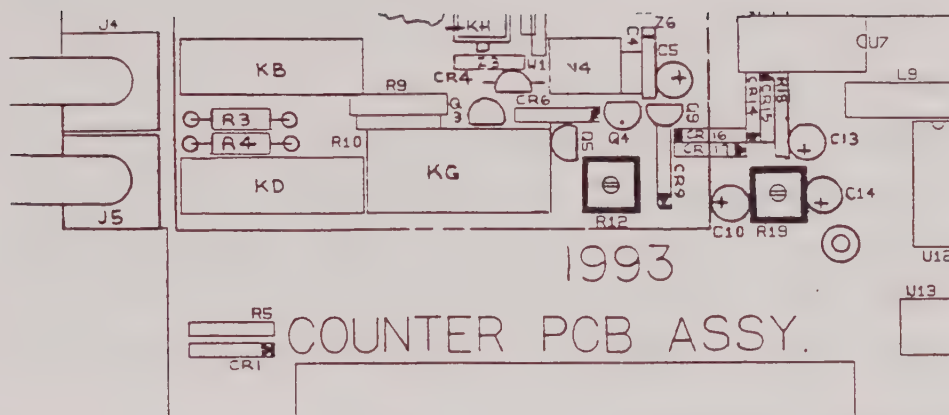

Fig 6.4 Location of R19 and R12
- 31 Set R19 fully counterclockwise and R12 to its midposition. R12 is located inside the screened module as shown in Fig 6.4.